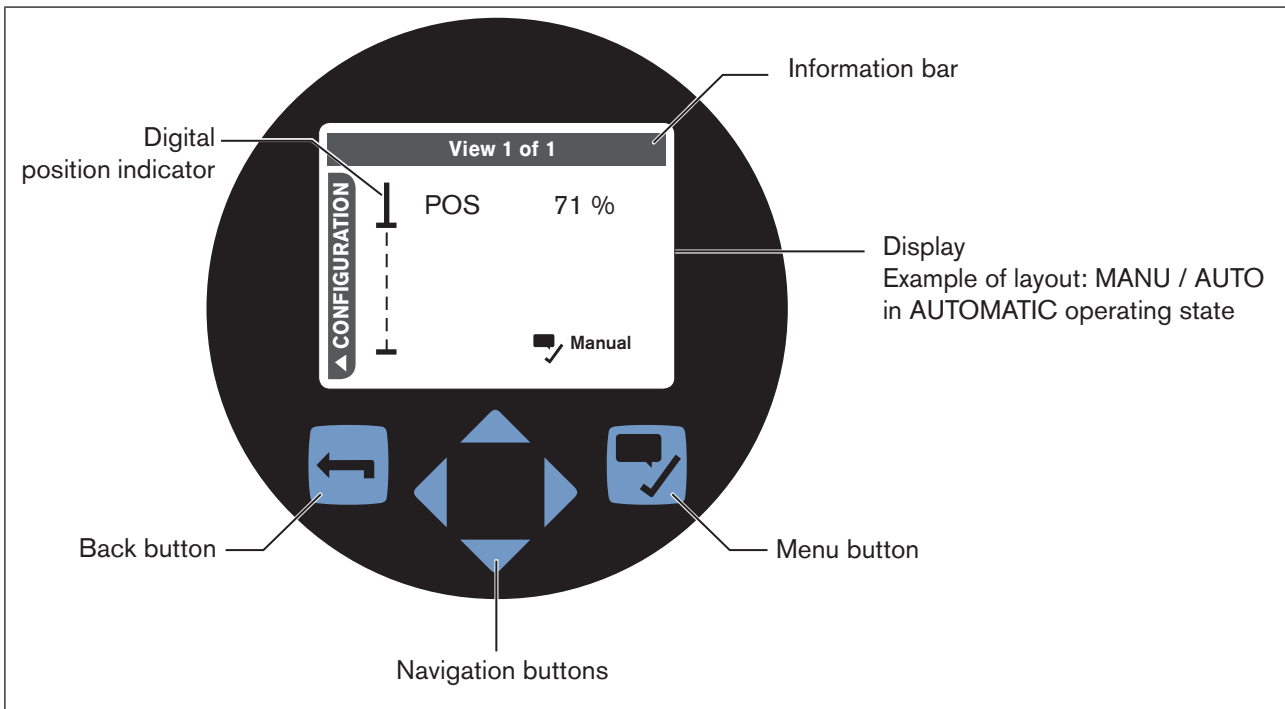

Figure 29: User interface
- MANU / AUTO** Preset in the factory (see "Figure 29").